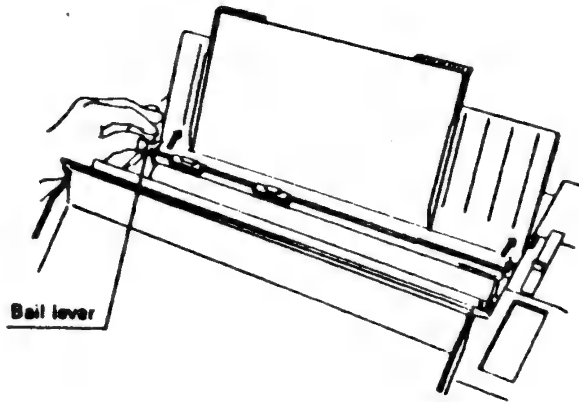

Figure 2-12 Loading Paper and Opening the Bail Rollers
5. Place a sheet of paper into the Rear Cover. It will slide behind the Platen, see Figure 2-12.